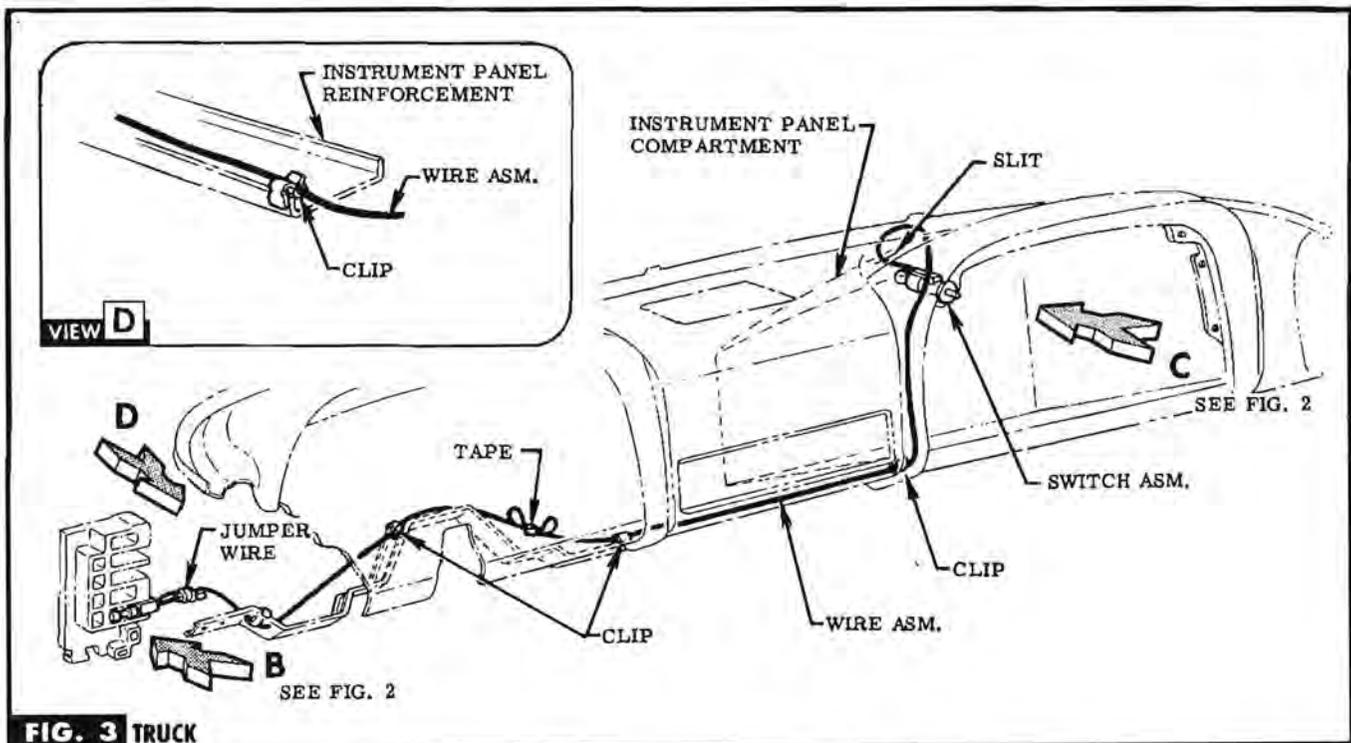

FIG. 3 TRUCK
STEP 1b ROUTE WIRE TERMINAL THRU SLIT IN UPPER LEFT HAND CORNER OF INSTRUMENT PANEL COMPARTMENT & THRU HOLE IN UPPER LEFT SIDE OF COMPARTMENT OPENING. SEE FIG. 3 OR 4 & VIEW C, FIG. 2.
STEP 2b ASSEMBLE WIRE TERMINAL TO SWITCH. INSERT LAMP & PRESS SWITCH INTO POSITION. SEE FIG. 3 OR 4 & VIEW C, FIG. 2.
STEP 4b (TRUCK) MOUNT CLIPS ON FORWARD FLANGE OF INSTRUMENT PANEL REINFORCEMENT & ROUTE WIRE THRU THESE CLIPS TO JUNCTION BLOCK. SEE FIG. 3, & VIEW D.
STEP 6b LOOP & TAPE EXCESS WIRE. SEE FIG. 3 OR 4. **NOTE** Discard remaining parts.